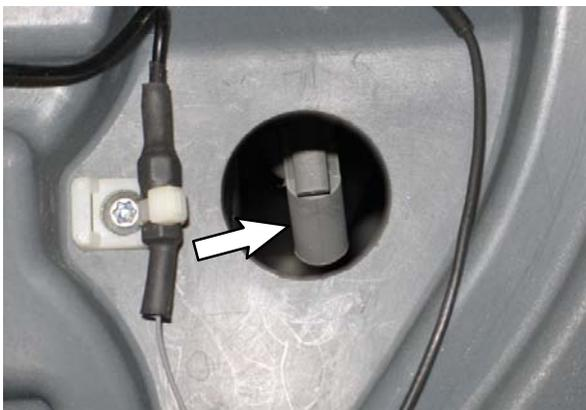

**FIG. 16**
D. Lower tank penetrates (Fig. 16)